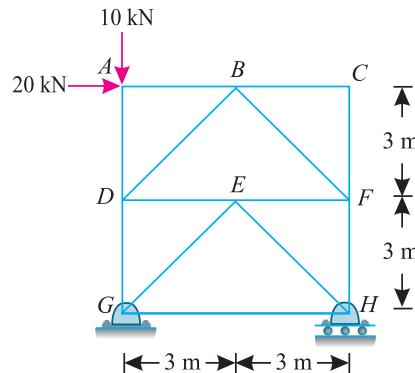

Fig. 12.37.
2. A truss is subjected to two point loads at  $A$  as shown in Fig. 12.37.